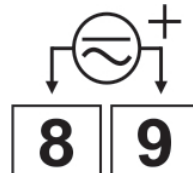

Figure 13 – 24 Vdc/ac Model
- 0-20 mA and 4-20 mA:** Figure 13 shows the connection mode for current signals.